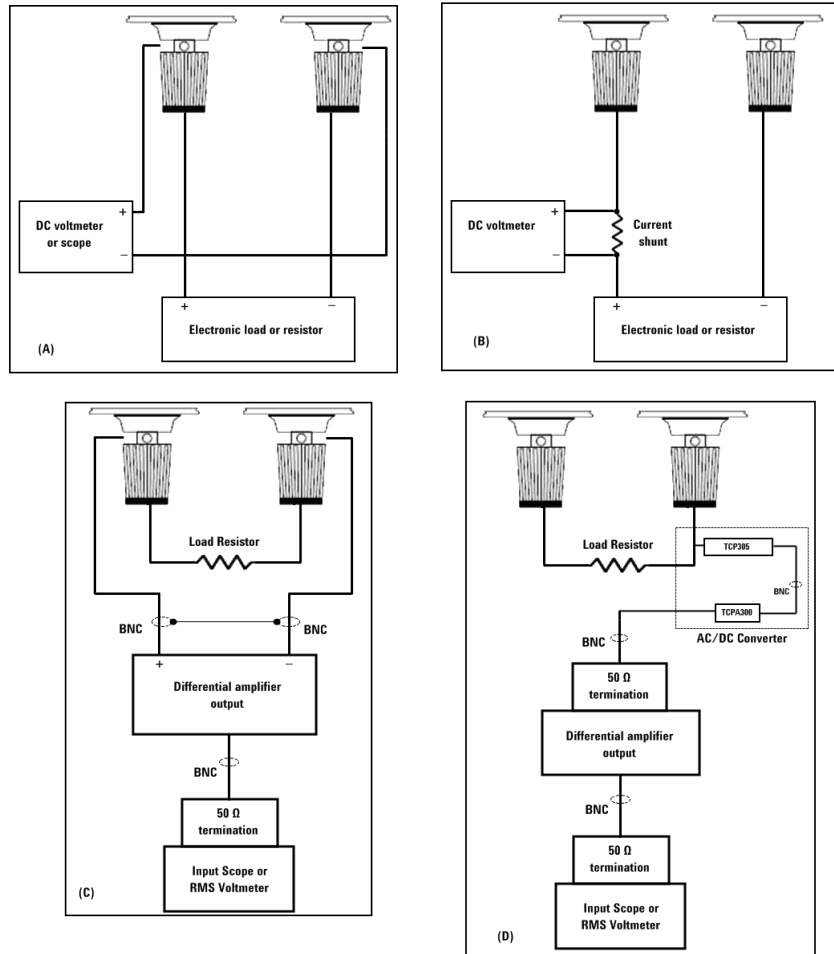

Figure 5-2 Test Setups
- 1 Power off the power supply and connect a DMM between the (+) and (-) terminals of the output to be tested. Remove the electronic load or resistor block as shown in Figure 5-2 \(A\), to operate as an open circuit.
- 1 Power-off the power supply and connect a DMM between the (+) and (-) terminals of the output to be tested as shown in Figure 5-2\(A\).
- 1 Power off the power supply and connect the output to be tested as shown in Figure 5-2\(A\) with an oscilloscope. Operate the electronic load in constant current mode.